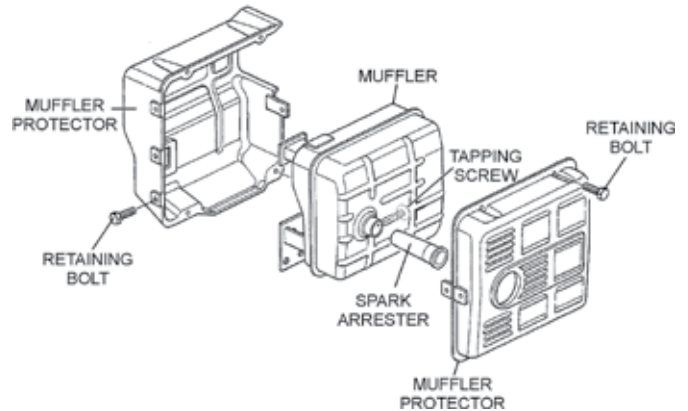

**Figure 35. Cleaning Foam Element**
3. Clean foam element (Figure 35) in warm, soapy water or non-flammable solvent. Rinse and dry thoroughly.